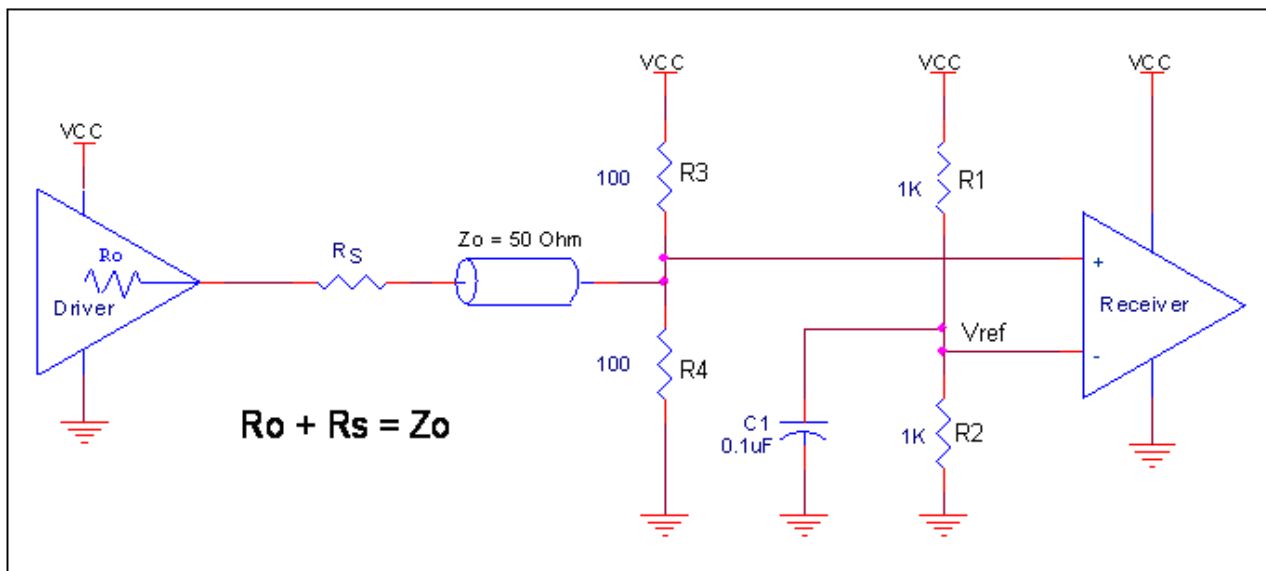

Figure 2. Recommended Schematic for Wiring a Differential Input to Accept Single-ended Levels
*Figure 2* shows how a differential input can be wired to accept single ended levels. The reference voltage  $V_{REF} = V_{CC}/2$  is generated by the bias resistors  $R1$  and  $R2$ . The bypass capacitor ( $C1$ ) is used to help filter noise on the DC bias. This bias circuit should be located as close to the input pin as possible. The ratio of  $R1$  and  $R2$  might need to be adjusted to position the  $V_{REF}$  in the center of the input voltage swing. For example, if the input clock swing is  $2.5\text{V}$  and  $V_{CC} = 3.3\text{V}$ ,  $R1$  and  $R2$  value should be adjusted to set  $V_{REF}$  at  $1.25\text{V}$ . The values below are for when both the single ended swing and  $V_{CC}$  are at the same voltage. This configuration requires that the sum of the output impedance of the driver ( $R_o$ ) and the series resistance ( $R_s$ ) equals the transmission line impedance. In addition, matched termination at the input will attenuate the signal in half. This can be done in one of two ways. First,  $R3$  and  $R4$  in parallel should equal the transmission